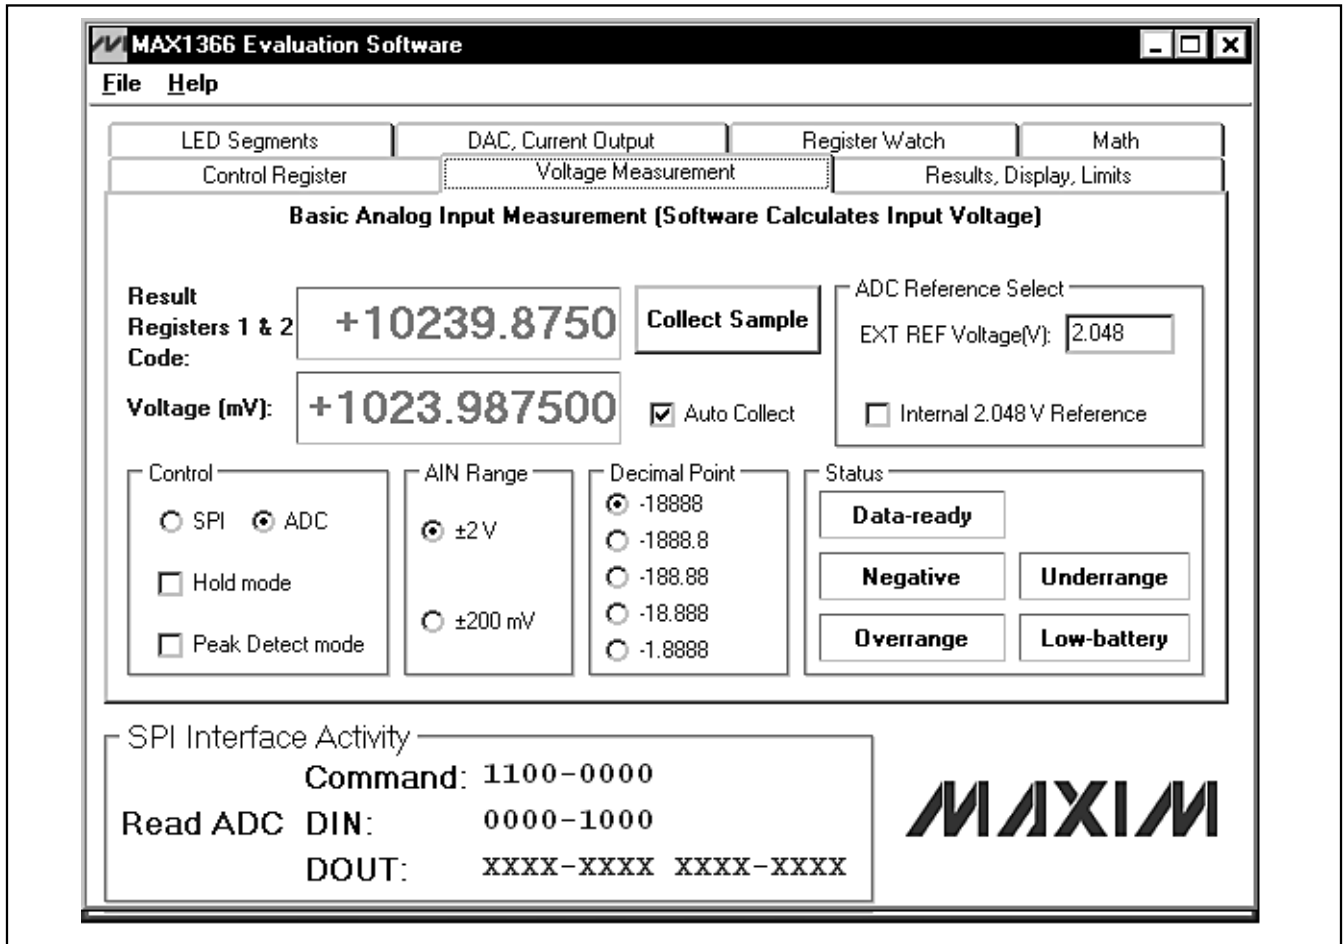

Figure 2. MAX1366 Evaluation Software—Voltage Measurement Tab
- 15) Switch to the **Voltage Measurement** tab, as shown in Figure 2. Wait one second or click the **Collect Sample** button. Verify the following readings:
The **Voltage Measurement** tab shown in Figure 2 mimics the behavior of a digital voltmeter (DVM). The status bits are checked and displayed every time a sample is